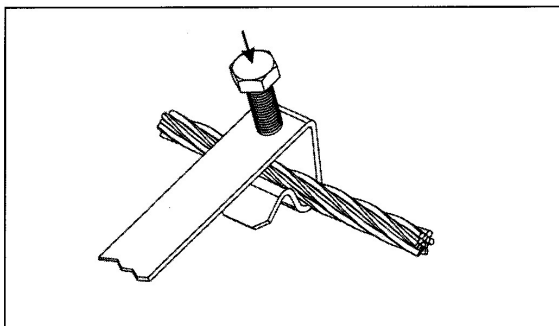

Figure 8. Securing to a strand
- ② Place brackets over the strand and tighten bolts using a 216 tool as shown in Figure 8.